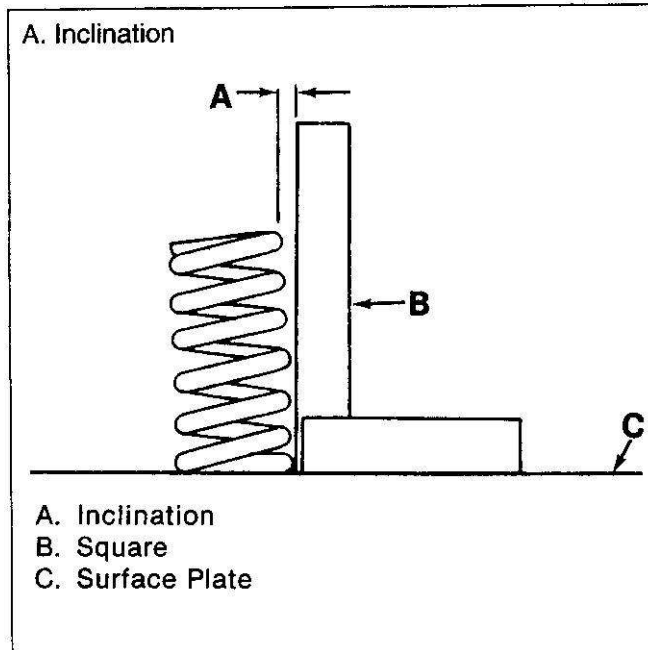

Figure 35. Checking Valve Spring Squareness
- Check amount of inclination from vertical with a square on a surface plate, as shown in figure 35.